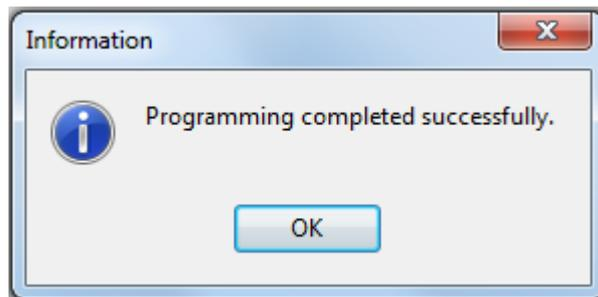

Fig. 29 Finish upload.
- Press: **OK** to finish upload (Fig. 29).